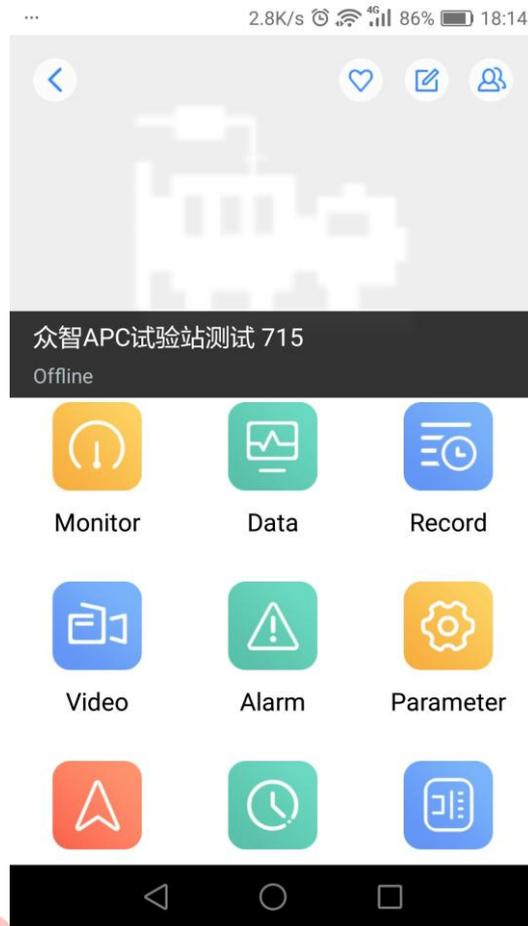
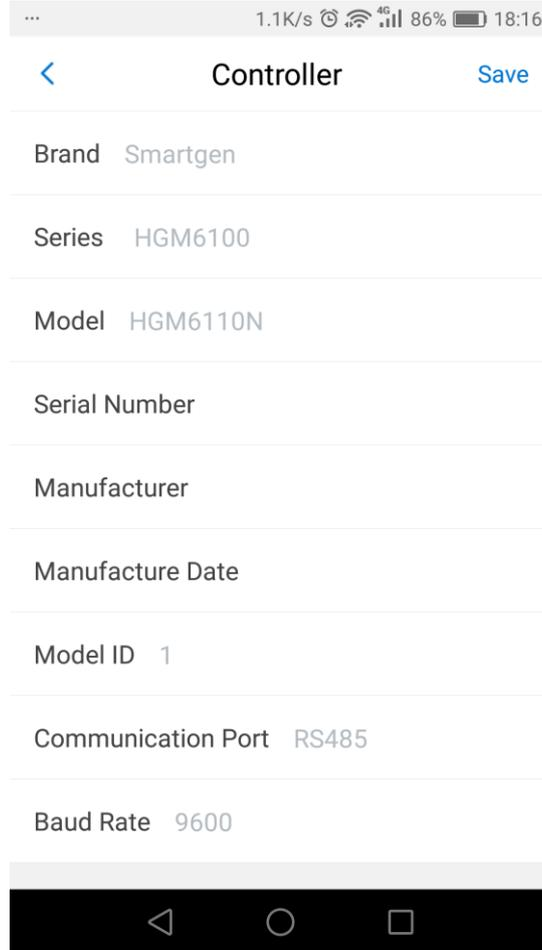

Fig. 19 - Genset Control Interface
Fig. 20 - Controller Interface
- 4) Search the added Modem ID in the list, click and enter interface as Fig. 19.
- 5) Click the Icon  in Fig. 19, enter "Edit Genset Profile", mainly configure controller information as Fig. 20, such as controller brand, controller series, controller model, model ID, Communication Port, Baud Rate etc. Click Save after setting. Users can obtain controller genset information by clicking the function icons in Fig. 19.